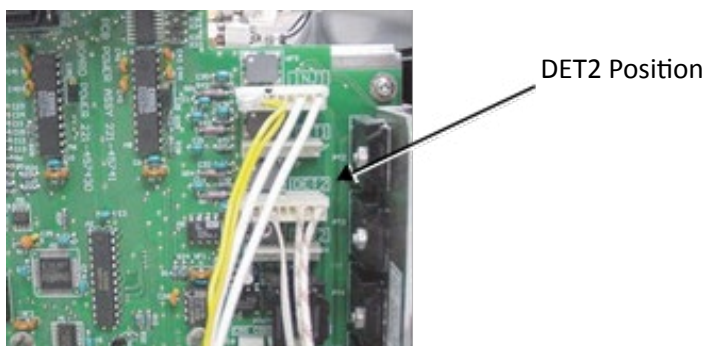

Figure 3.15. Routing the Heater Cable
2. Plug the heater cable into the connection labeled DET2 for the back detector position (see Figure 3.15)